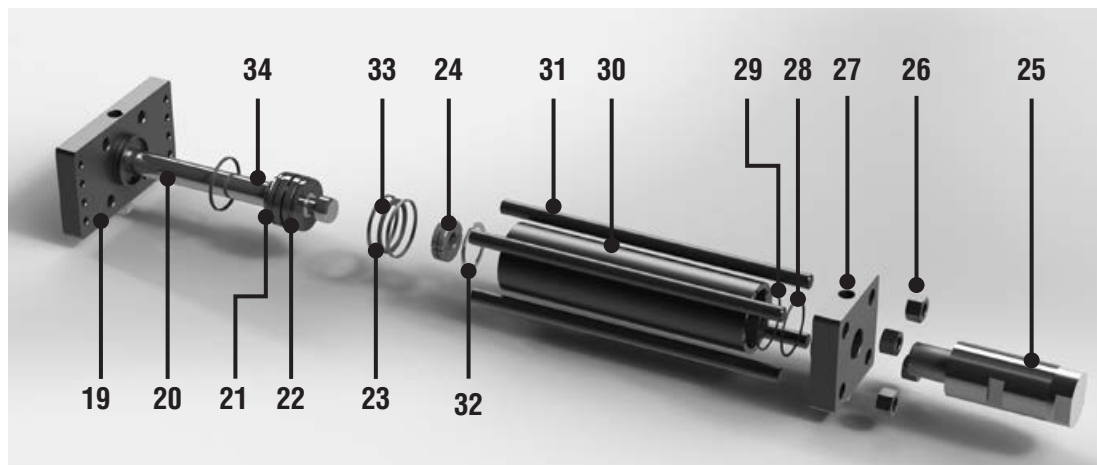

Figure 23: Exploded View of Hydraulic Cylinder
- 3.2.7 Change the adapters. Replace the adapters (54 and 55) designed for fail close (open) action, with the new ones designed for the opposite action. Take care to choose the adapter kit suitable for the Scotch yoke type in use (symmetric or canted). The guide block (48) of the symmetric Scotch yoke is marked with the “S” letter on the top face, while the guide block of the canted Scotch yoke is marked with a “C” letter on the top face, as shown in the pictures at right.
NOTE: The spring can adaptor (55) and cylinder adaptor (54) can be inserted in the guide block in one way only, pending on the Fail Close (CW) or Fail Open (CCW) configuration. Component numbers are referred to in Figures 23 and 24.
The reference drawing is Figure 23.
Standard maintenance of the Scotch yoke housing may take place in the field, without the need to disassemble the spring container or the hydraulic cylinder. Perform the following steps. The reference drawings are Figures 23 and 24.